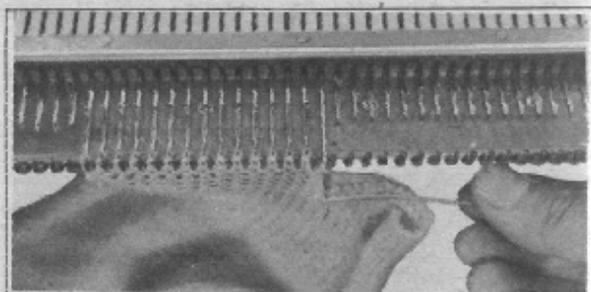

Fig. 3
6. When shaping is completed, cast off the shoulder stitches using Method 1 or 3. (Fig. 3)